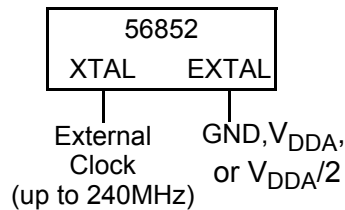

Figure 4-7 Connecting a High Speed External Clock Signal using XTAL
The recommended method of connecting an external clock is given in Figure 4-7. The external clock source is connected to XTAL and the EXTAL pin is held at ground (recommended), V_{DDA} , or $V_{DDA}/2$. The TOD_SEL bit in CGM must be set to 1.
1. See Figure 4-7 for details on using the recommended connection of an external clock driver.